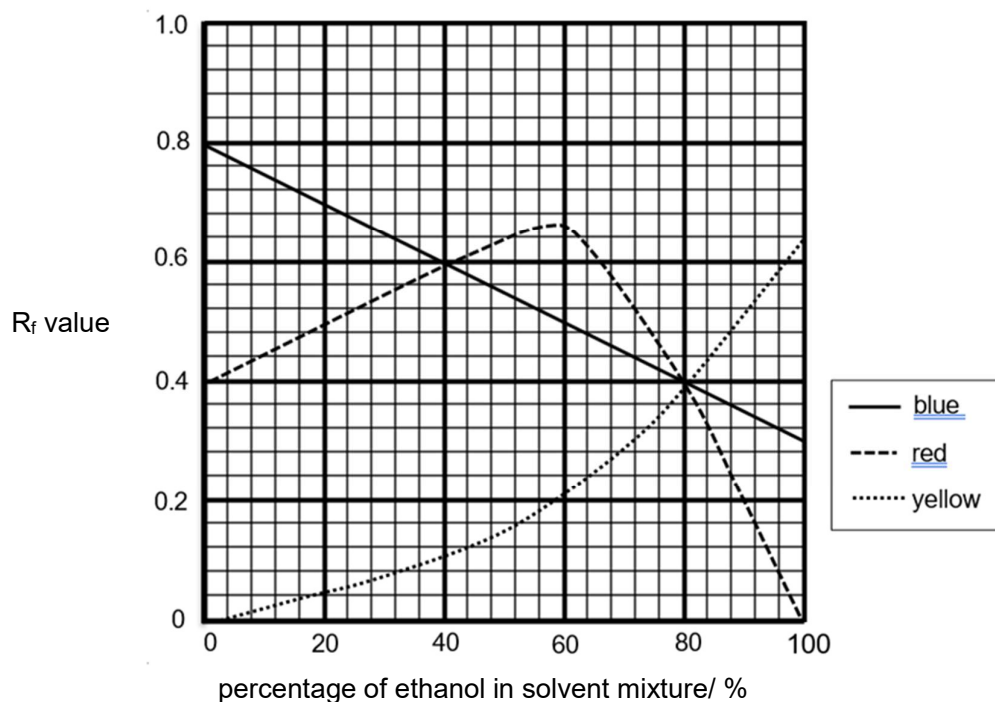

Fig. 2.1
- 2 A laboratory technician mixes red, blue and yellow dyes to make black dye for a paper chromatography experiment. A common solvent used to separate the dyes in black ink is a mixture of ethanol and water. The coloured dyes have different R_f values in solvents with different composition of ethanol as shown in Fig. 2.1.